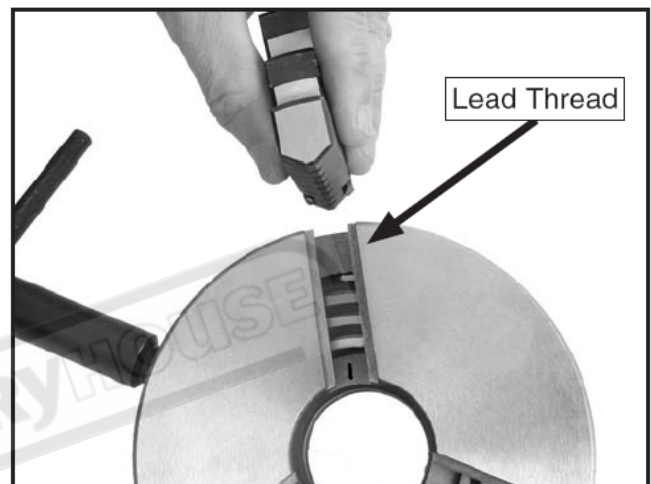

Figure 17
3. Insert the chuck key into a scroll keyway and rotate it until you see the beginning of the scroll gear's lead thread come into view through the #1 jaw guide, then back it off slightly until it disappears (see **Figure 17**).